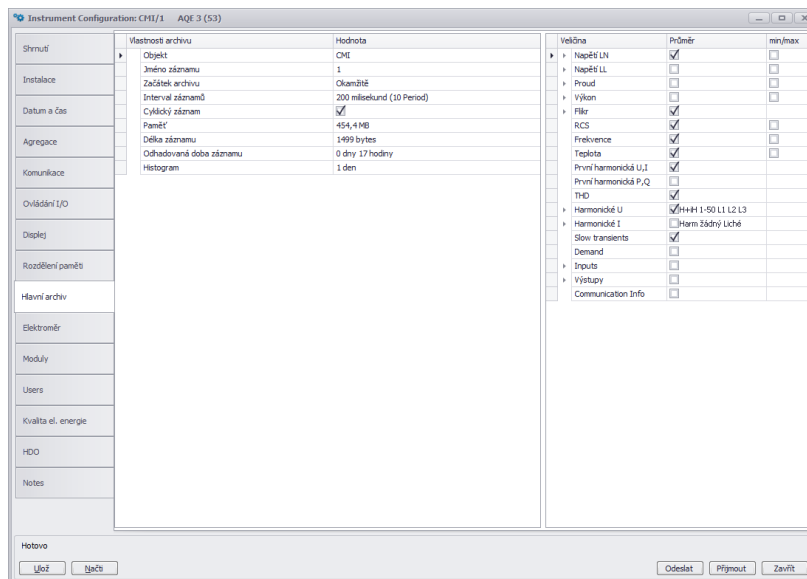

Figure 17: ENVIS.Daq — setting of list of values for main archive.
2.4.7 Setting the main archive (Archive 1, fig. 17).